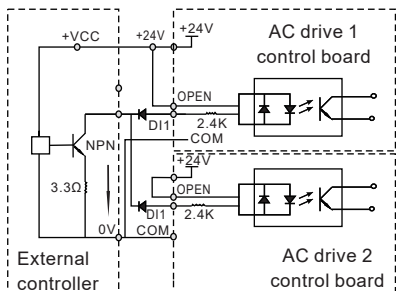

Figure 3-22 DI terminals connected in parallel in SINK mode
- + In this In such wiring mode, the DI terminals of different AC drives cannot be connected in parallel. Otherwise, DI mal-function may result. If parallel connection (different AC drives) is required, connect a diode in series at the DI and the diode needs to satisfy the requirement: $IF > 10\text{mA}$, $UF < 1\text{V}$ As shown in Figure 3-22.